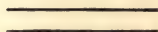

FIG. 3.
20. **Parallel lines** (Fig. 3) are those which are equally distant from each other at all points.